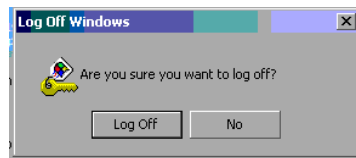

Figure 1-255. Confirm Log Off
21. A “Log Off Windows” confirmation window is displayed (Figure 1-255). Press and hold the **Shift** key and select **Log Off**.